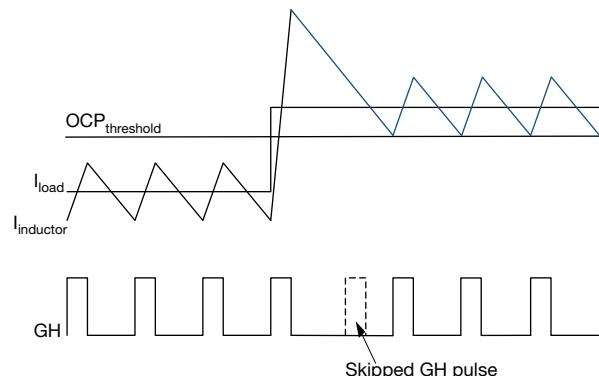

Fig. 7 - Over-Current Protection Illustration
SiC45x has pulse-by-pulse overcurrent (OC) limit control. The inductor valley current is monitored during low-side (LS) FET turn-on period through $R_{DS(on)}$ sensing. After a pre-defined blanking time, the valley current is compared with an internal OCP threshold named $I_{OUT_OC_FAULT_LIMIT}$, which can be programmed via PMBus. Once monitored valley current is larger than $I_{OUT_OC_FAULT_LIMIT}$, a pulse-by-pulse over-current limit is broken, high-side (HS) turn-on pulse is skipped and LS FET is kept on until the inductor valley current returns below OCP limit as illustrated by Fig. 7.